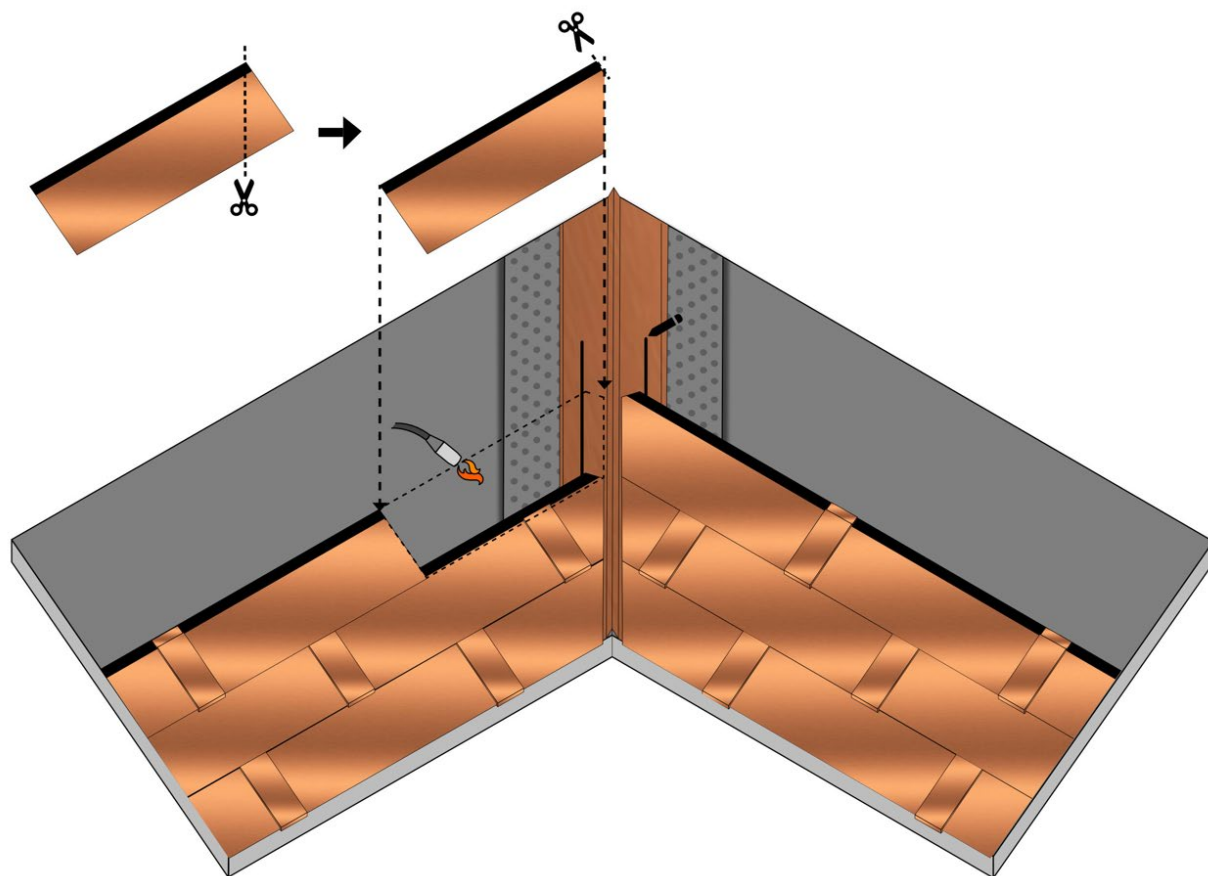

Fig. 25 – Shingles installation by torch along the valley
- Next, install the starting row and the shingles on the first pitch, up to the valley line, cutting them 3 cm and parallel to the valley line. Secure the shingles and the starting row with the torch, and with Bitustick, applied in two parallel rows, above the metal valley flashing – Fig. 25.
- Repeat the same procedure for the second pitch. In the end, a channel should be created between the shingles, along the metal valley, where the water will flow preferentially, Fig. 25.
- Cross-cut the top edge of the shingle to the valley, so as to convey the descending water along the axis of the valley. Fig. 25